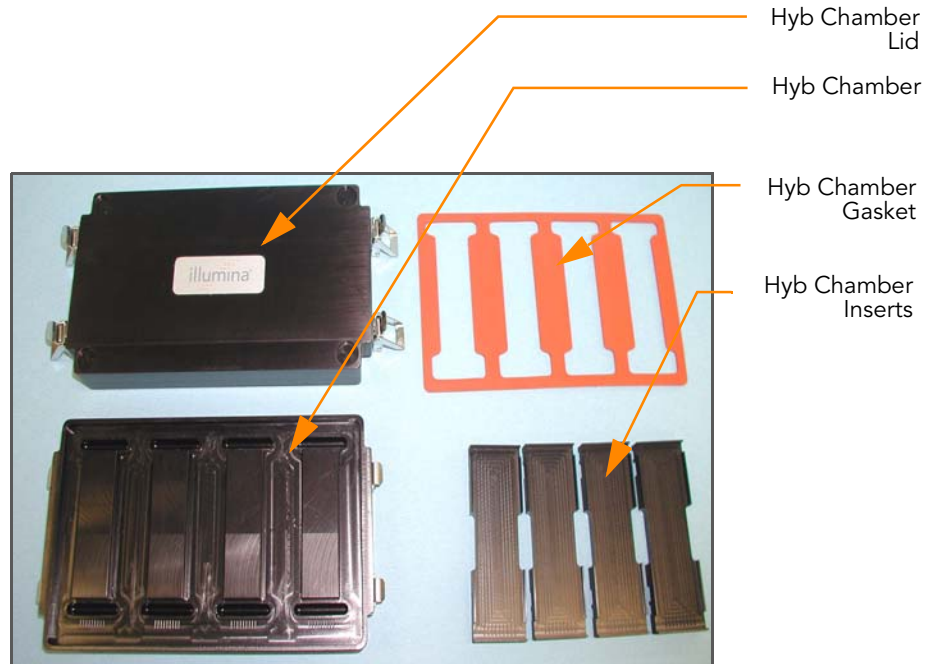

Figure 50 BeadChip Hyb Chamber Components
1. Place the following items on the bench top (Figure 50):